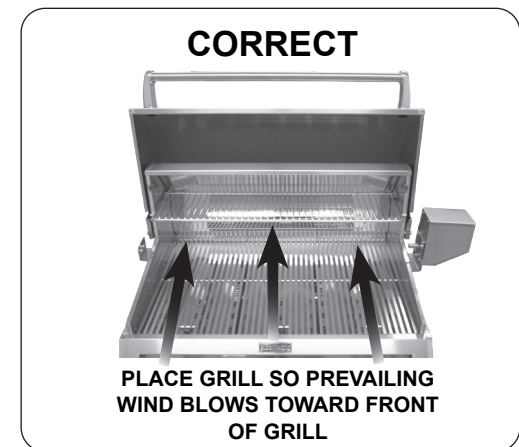
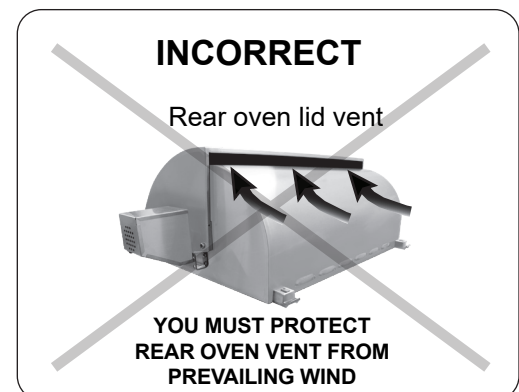

Fig. 10-2 Airflow direction - CORRECT
Fig. 10-3 Airflow direction - INCORRECT
**CAUTION:** Wind blowing into or across the rear oven lid vent (Fig. 10-3) can cause poor performance and/or dangerous overheating. Orient the grill so that the prevailing wind blows toward the front of the grill (Fig. 10-2). **A wind deflector is available for purchase to assist in proper airflow during windy conditions.** See Table 2 for model numbers. Follow the instructions included with the wind deflector for installation.